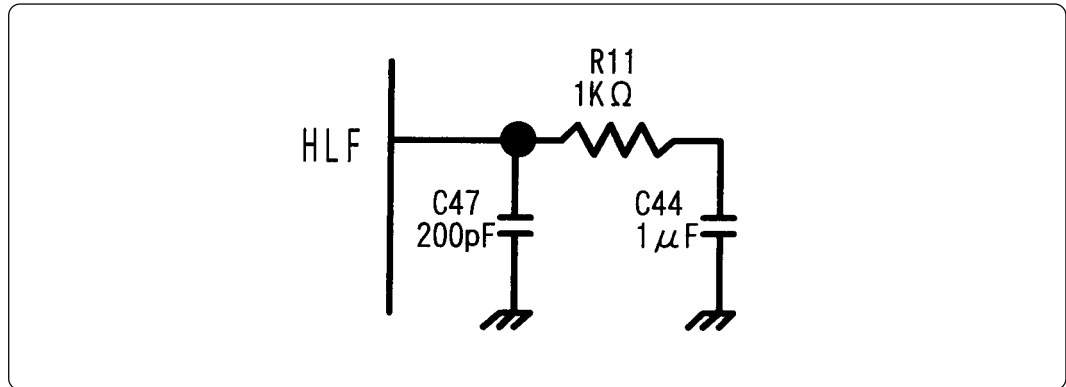

Figure 3.10 Signal circuits of HLF pin
(2) Figure 3.10 shows the numbers of parts which are connected to HLF pin, the constants of parts and the connection circuits.